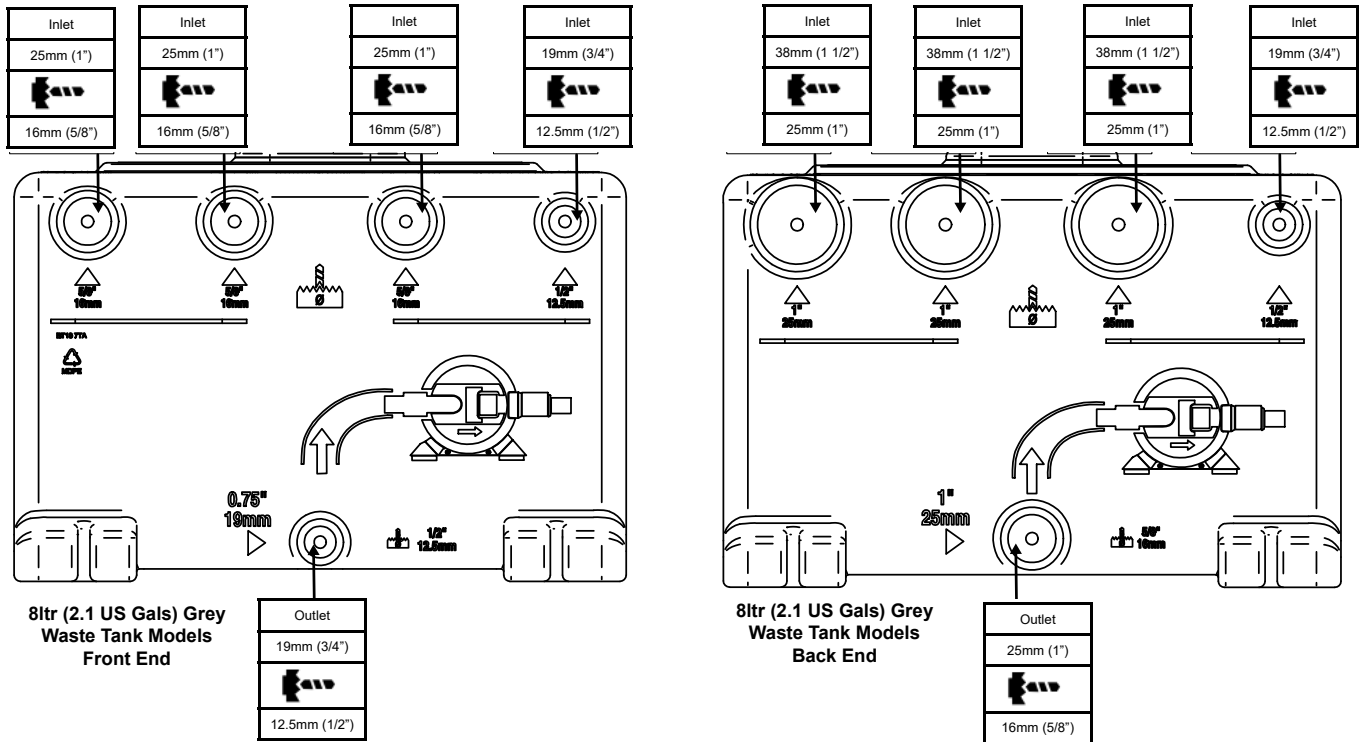
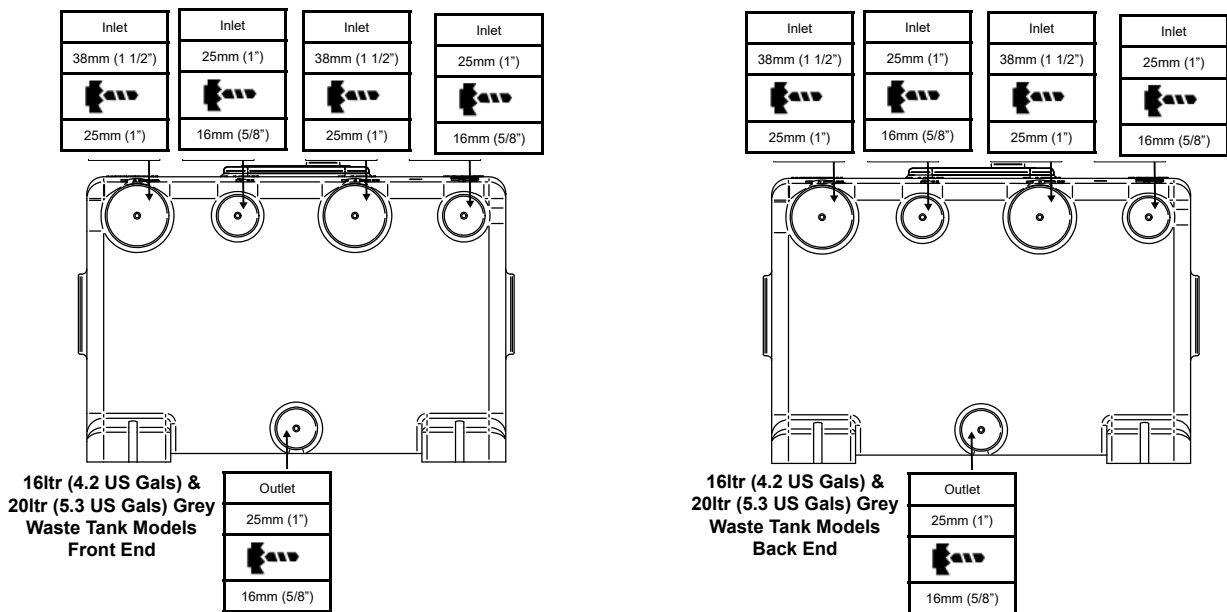

Figure 3 Port Sizes & Recommended Drill Diameters For 8ltr (2.1 US Gals) Grey Waste Tank Models
Figure 4 Port Sizes & Recommended Drill Diameters For 16ltr (4.2 US gals) And 20ltr (5.3 US gals) Tank Models
| Fig. 3      | Port Sizes & Recommended Drill Diameters For 8ltr (2.1 US gals) Grey Waste Tank Models                    |
| Fig. 4      | Port Sizes & Recommended Drill Diameters for 16ltr (4.2 US gals) and 20ltr (5.3 US gals) Grey Tank Models |
**Step 1:** Drill only the ports which are to be used in the installation. Port sizes and recommended drill diameters are shown in Figure 3 for 8ltr (2.1 US Gals) tank models, and Figure 4 for 16ltr (4.2 US Gals) and 20ltr (5.3 US Gals) tank models. Ensure all swarf is removed from inside the tank after drilling.